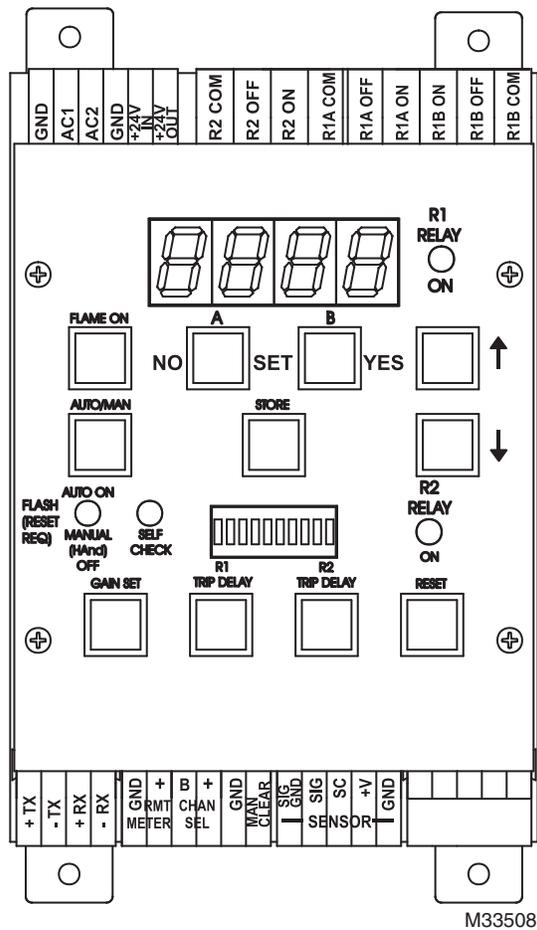

Fig. 1. Terminal labeling.
Refer to Fig. 1 on the following page, and proceed to wire the signal processor as follows:
9. Proceed to wire the connector as follows: (Refer to the wiring diagram Fig. 1 for terminal locations.)
The cable at the signal processor end should be prepared in a similar way to the plug end, particularly the shield from the WHT wire. Follow the wiring connections as shown in the wiring diagram Fig. 1, making sure that the shield does not touch the other adjacent terminals.